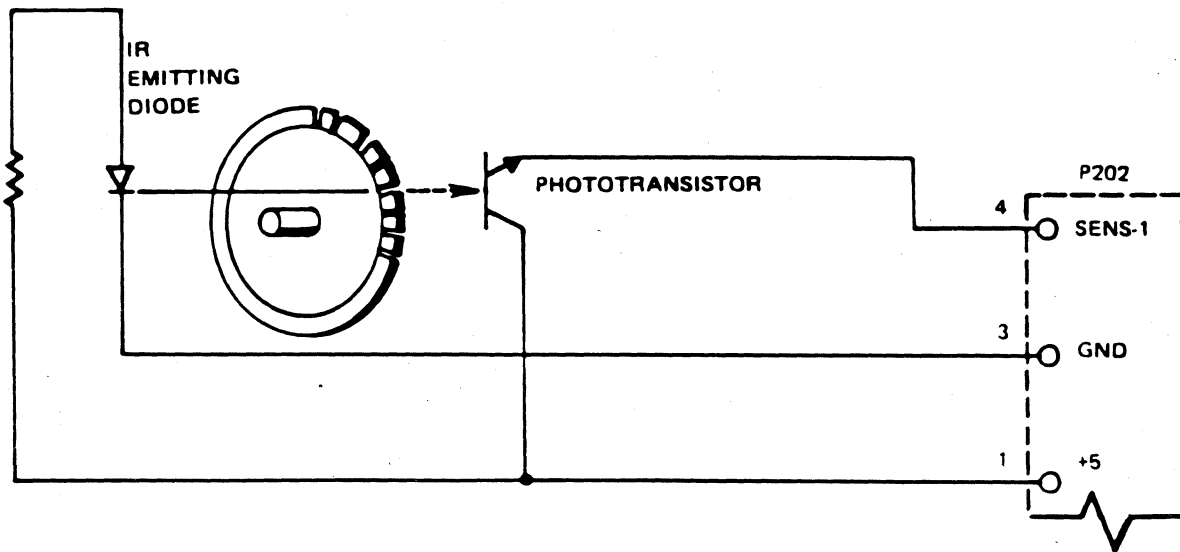
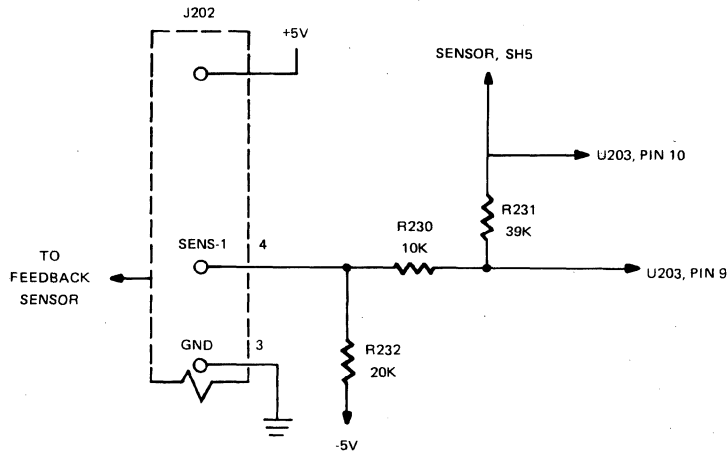

Figure 5-4. Printhead Stepping Motor Feedback Sensor Light Path Schematic
Figure 5-5. Printhead Stepping Motor Feedback Sensor Motor Schematic
5.3.1.6 Feedback Sensor Circuit. The processor requires data on the position of the printhead stepping motor to determine when to apply braking, change phases, or make other decisions concerning motion of the printhead carriage. This data is provided by the feedback sensor consisting of a 24-position slotted wheel that interrupts a light path between an IR-emitting diode and a photosensitive transistor. This assembly is mounted on the stepping motor which drives the printhead carriage. The circuit is shown in Figure 5-4. The signal from the phototransistor is input to a Schmitt trigger circuit in U203 (2265832, sheet 8) as illustrated by the block diagram in Figure 5-5.